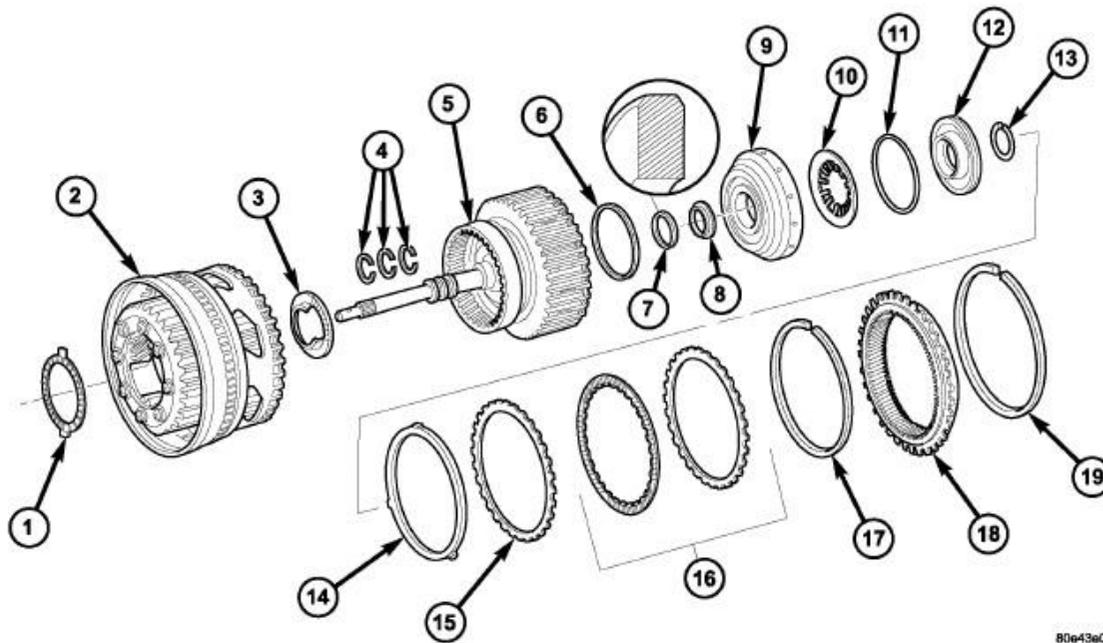

Fig. 143: Exploded View Of Input Clutch K2 Components
1. Install piston (9) in outer multiple-disc carrier. Refer to **Fig. 143**. Inspect seals (6 and 7), replace if necessary. The rounded edges of the inner piston seal (7) must point to the outside.
2. Insert disk spring (10) and spring retainer (12). Insert disk spring (10) with curved side pointing toward spring retainer (12). Inspect seal (11), replace if necessary. Refer to **Fig. 143**.